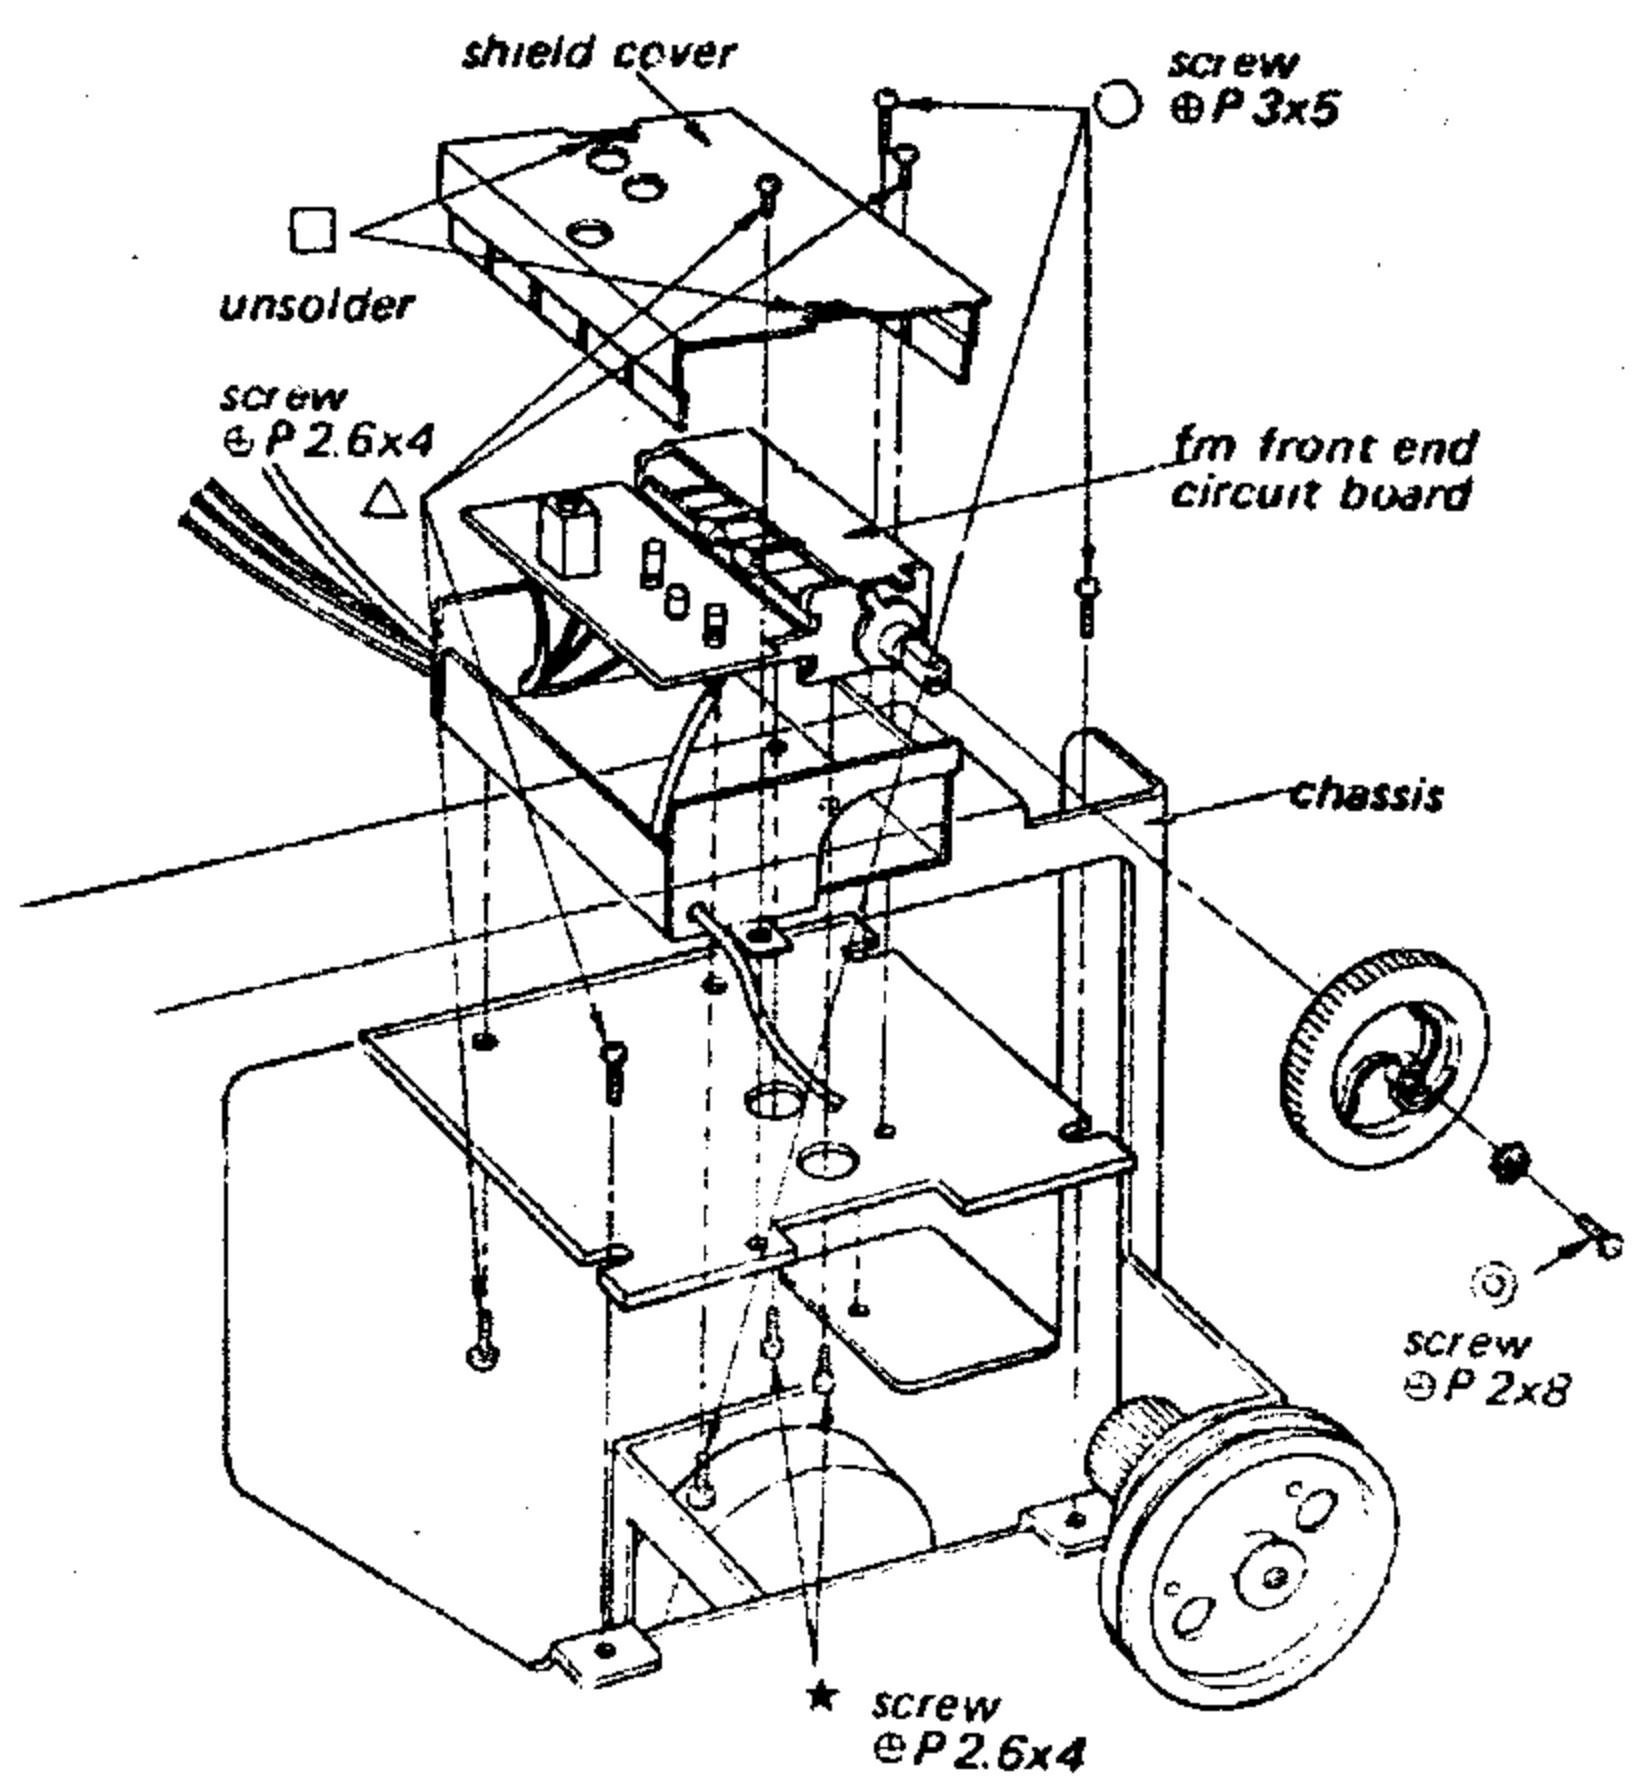

Fig. 2-7
2. Remove the seven screws marked  $\circ$  and  $\Delta$  in Fig. 2-7.
6. Take out the shield cover and fm front end circuit board as illustrated in Fig. 2-7.